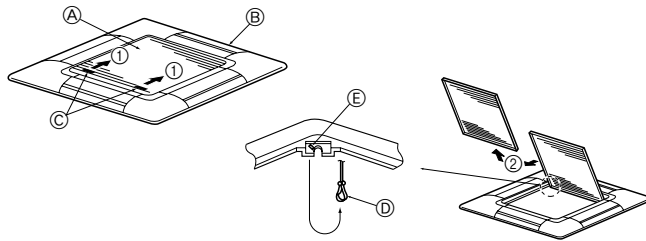
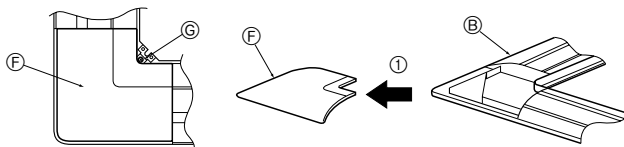

Fig. 8-3
Fig. 8-4
8.2.1. Removing the intake grille (Fig. 8-3)
- Slide the levers in the direction indicated by the arrow ① to open the intake grille.
- With the intake grille in the "open" position, remove the hinge of the intake grille from the grille as indicated by the arrow ②.
8.2.2. Removing the corner panel (Fig. 8-4)
- Remove the screw from the corner of the corner panel. Slide the corner panel as indicated by the arrow ① to remove the corner panel.